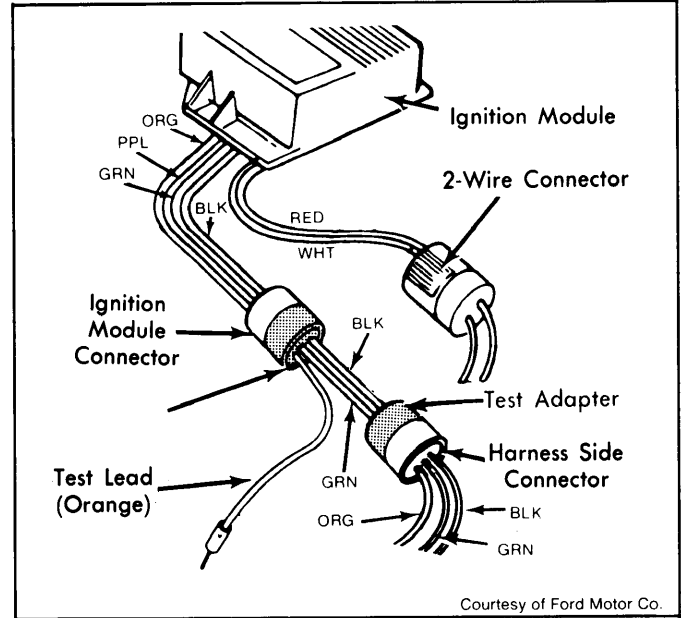

Fig. 2: EEC Ignition System Test Adapter Hook-Up
1) Insert test adapter between wiring harness and ignition module 4-pin connector. See Fig. 2. Connect a scope with an inductive pick-up to coil high tension wire. Turn ignition on and check for spark while repeatedly grounding test lead.